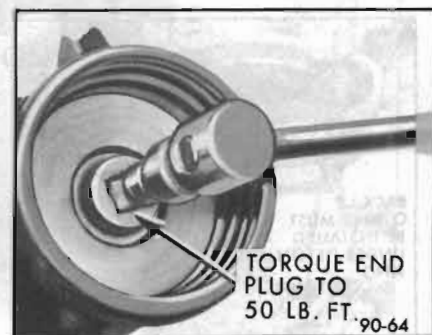

Figure 90-61—Torquing Rack-Piston Nut End Plug
7. Install rack-piston end plug using 1/2 square drive. Torque plug to 50 lb. ft. See Figure 90-61.